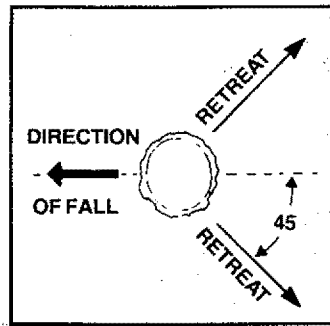

Figure 24
- Plan a clear retreat path** to the rear and diagonal to the line of fall. Figure 24.